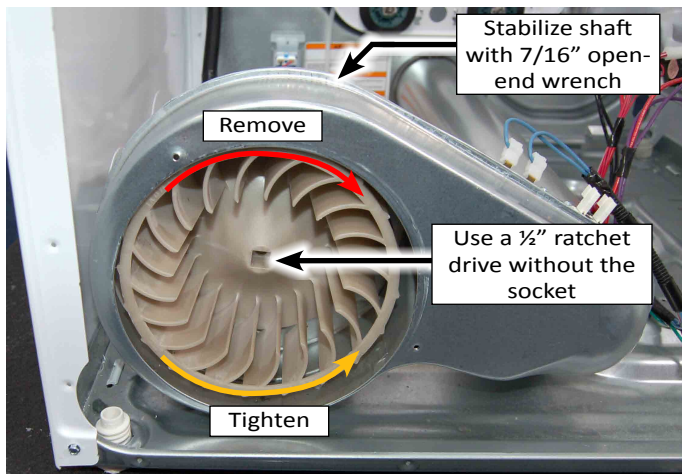

Figure 1
5. Reach around to the back of the blower housing and attached a 7/16" open-end wrench to the hex-end of the motor shaft. Insert a 1/2" ratchet drive into the blower wheel square hole (see Figure 1).
6. Turn the blower wheel clockwise (shown by the "REMOVE" arrow that is embossed on the front of the wheel) and remove the wheel from the motor shaft (see Figure 1).